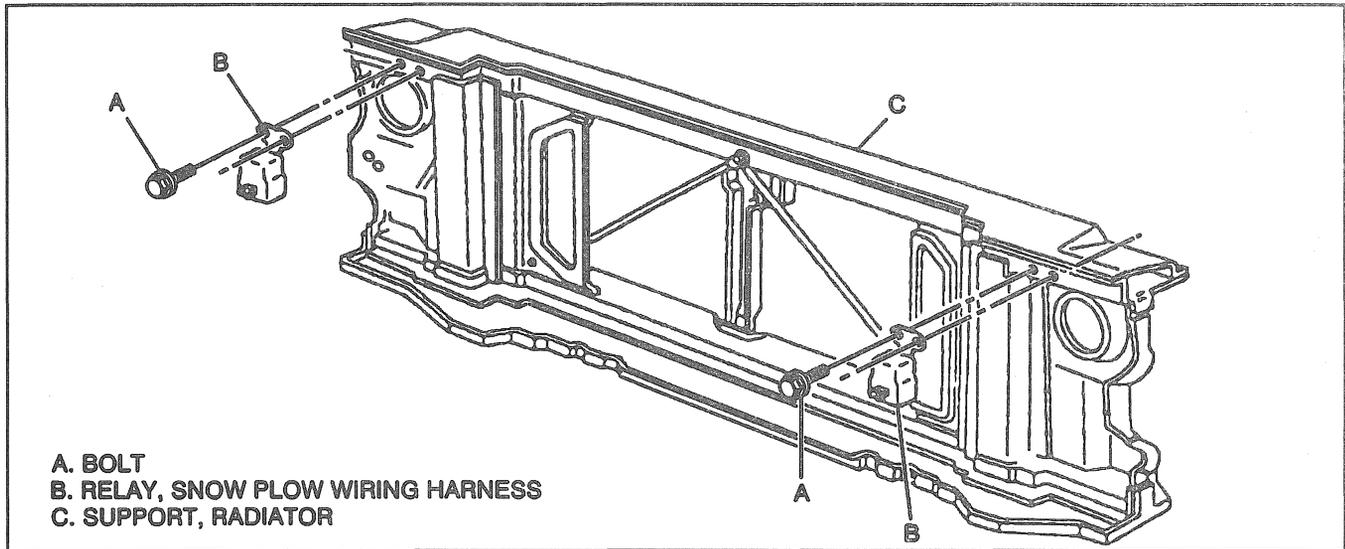

Figure 5—Snow Plow Turn Signal Relay Replacement
**↔** Remove or Disconnect (Figure 5)
**↔** Install or Connect (Figure 5)